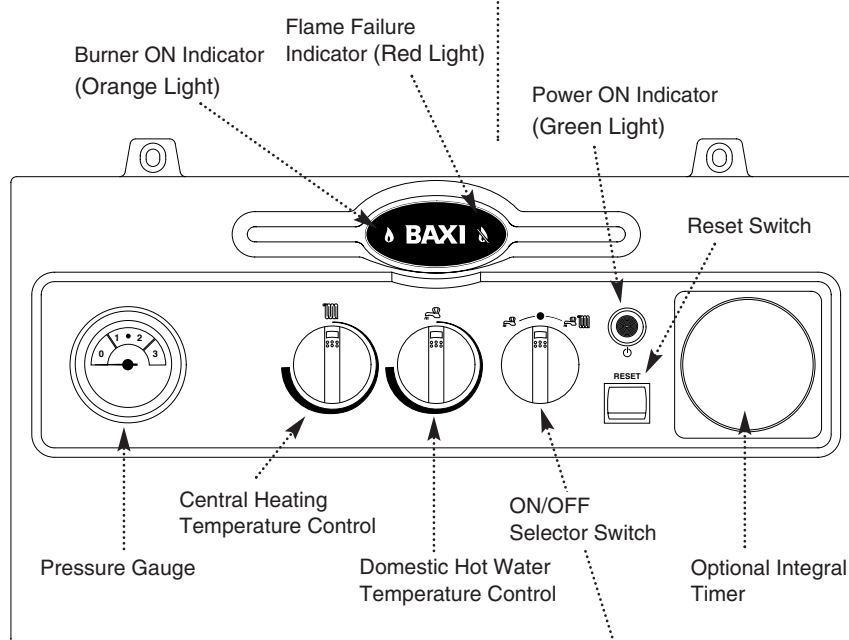

Fig. 2
4. In either position the green indicator will light, showing power on (Fig. 2).
9. The orange indicator will light when the boiler is operating and the main burner is on (Fig. 2).